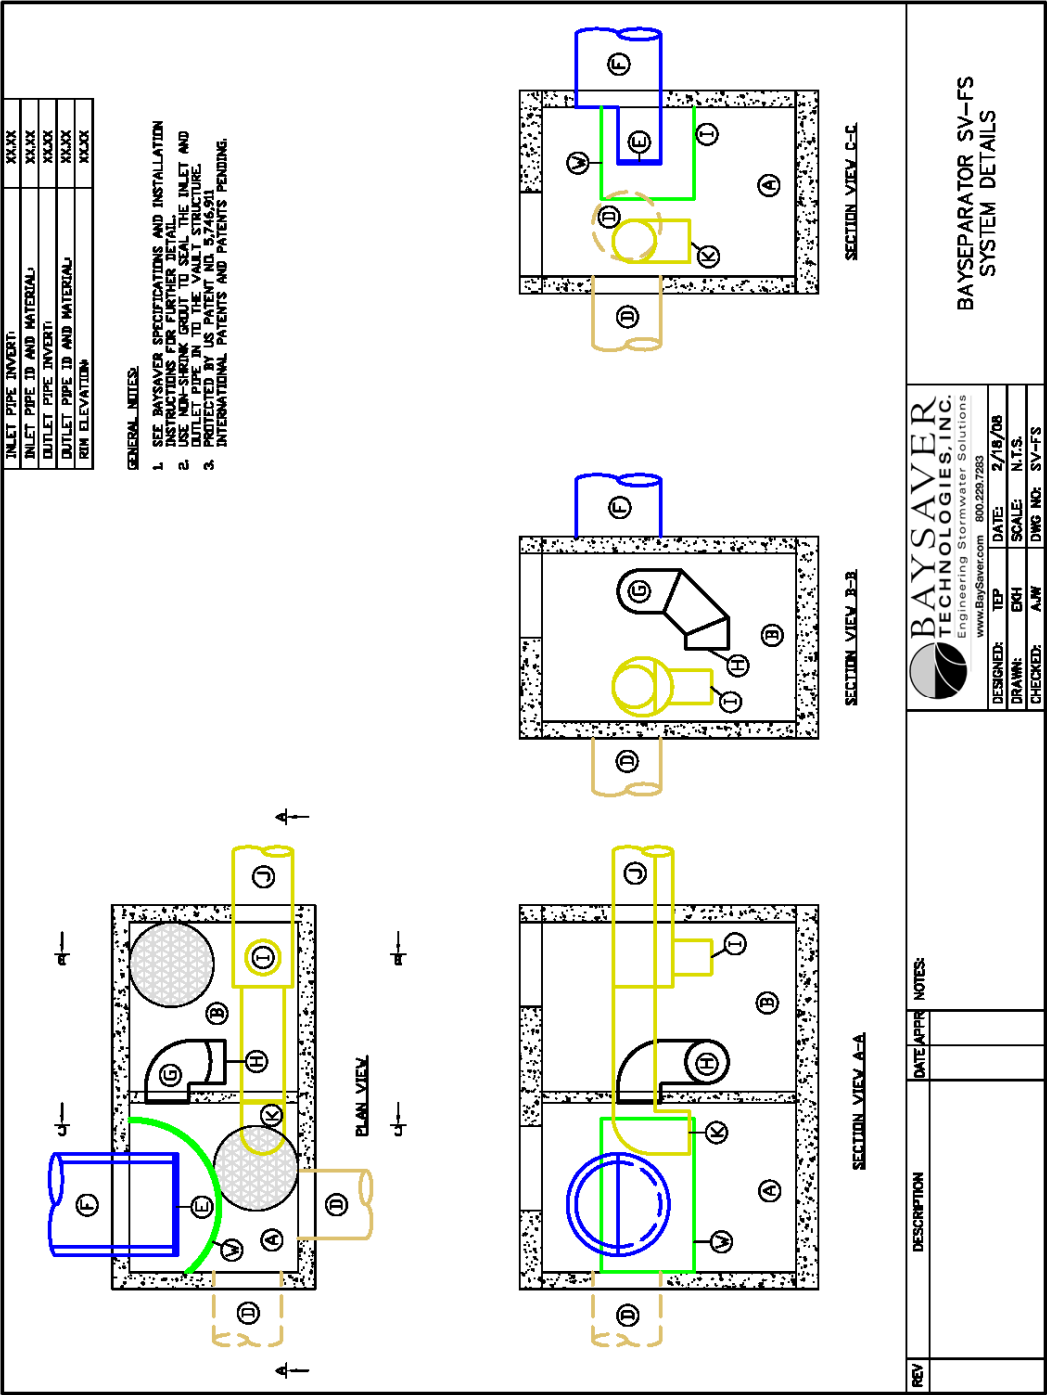

Figure 2.6: BaySeparator™ SV-FS
During low flow conditions, influent water enters the BaySeparator™ SV-FS through the influent pipe (labeled D in Figure 2.6), in the same manner as it does in the standard BaySeparator™ SV system. It flows directly into the primary chamber (A), causing the water level in that chamber to rise. When the water level in the primary chamber rises, water is skimmed from the surface of that chamber by a pipe (G) that penetrates the baffle wall between the two chambers. This pipe delivers that water to the storage chamber (B), where it enters horizontally below the water surface through a 90 degree fitting (H). When the water enters the storage chamber, the entrained sediments and oils begin to separate from the water stream – sediments settle to the structure floor and oils rise to the water surface. The additional water in the storage chamber displaces clean water from the center of the column, which enters the return pipe (I) and flows to the treated flow outlet assembly (J).